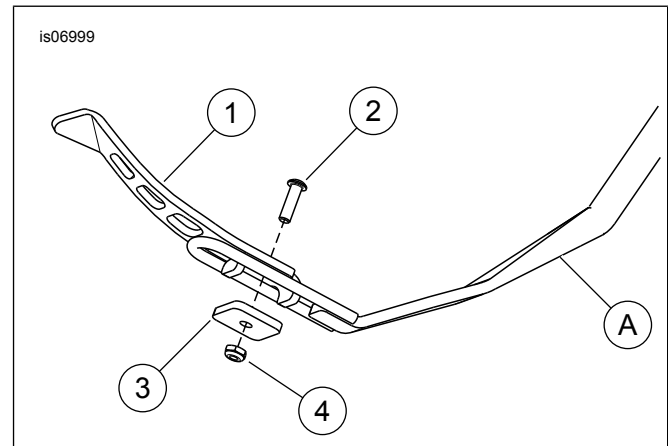

Figure 2. Service Parts: Jiffy Stand Extension
See Figure 2 and Table 1.
2. See Figure 2. Install jiffy stand extension (1) on to end wire of jiffy stand as shown.
3. Install the extension in place with the clamp (3), screw (2) and locknut (4). Adjust position of extension until a comfortable rider position is located.